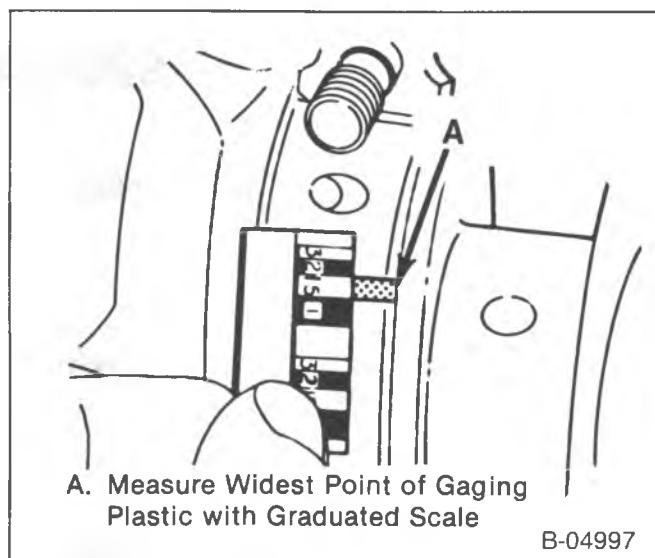

Figure 40—Measuring the Gaging Plastic
Measure (Figure 40)
- Gaging plastic at its widest point, using the scale at the gaging plastic envelope (figure 40).